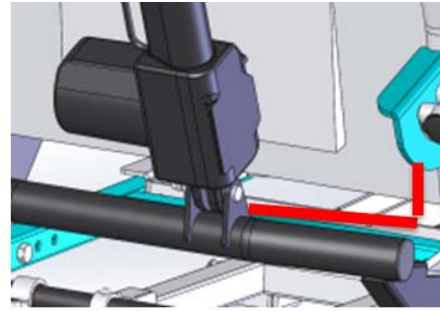

Figure 5-152
5.3.16.9 Use part C to tighten the cable of recline actuator on the Aluminum tube. (Figure 5-152)